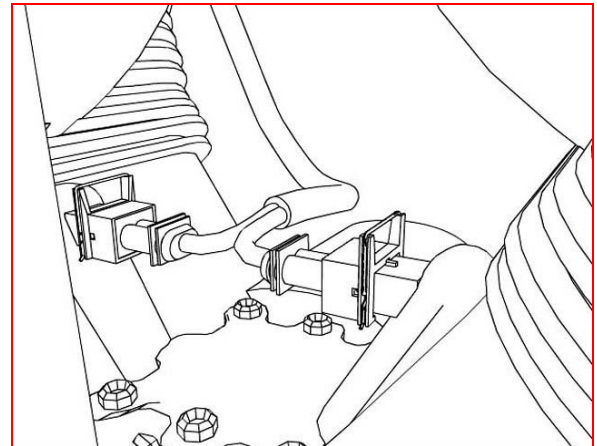

Figure 7
7. View from left, stock. (see figure 7)